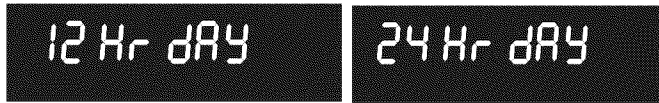

Figure 13: 12 Hr dAY and 24 Hr dAY settings
2. Press the Up / Down arrow keys to toggle between 12 Hr day or 24 Hr day display modes (See Figure 13).